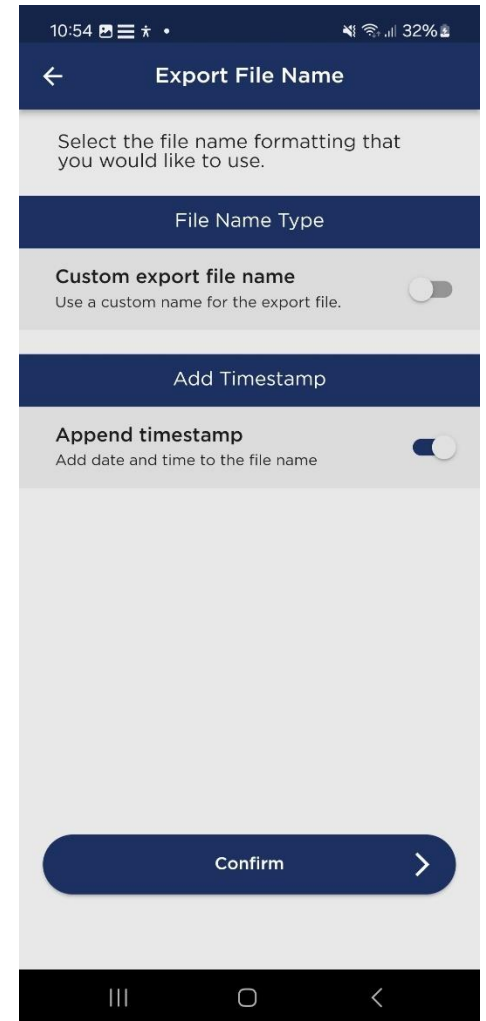

Figure 8-18: The *Export File Name* page where you can set a custom name for the export file and choose to append a timestamp to the export file name.
- On the Export File Name page (see Figure 8-18), you can set a custom name for the export file and choose to append a timestamp to the file name. This option allows you to add the date and time to the file name, making it easier to track and manage exported files.